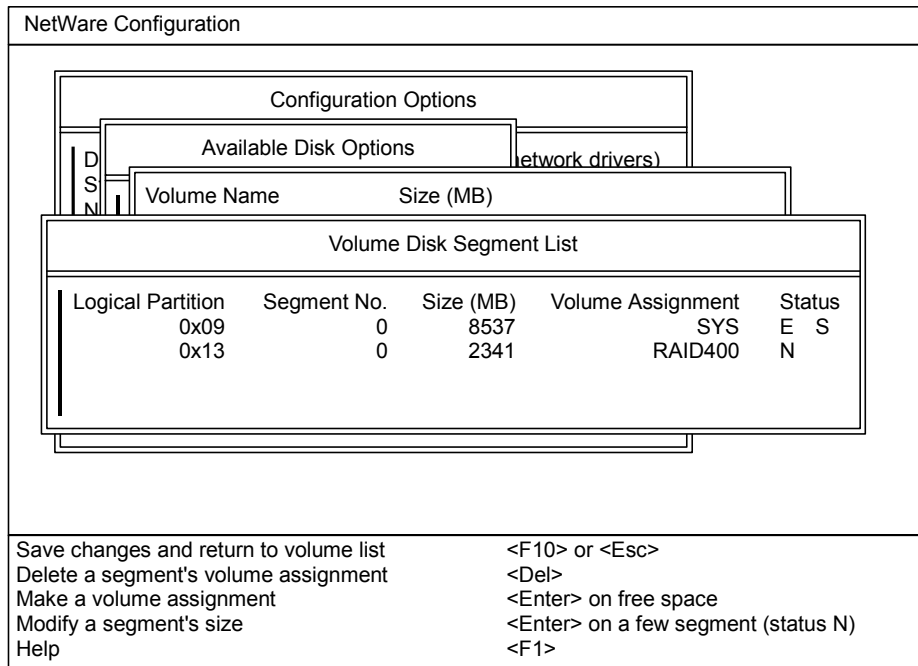

**Figure 3.11** Creating a New Volume on the Selected Device
5. When the **What would you like to do with this free segment?** message appears (see Figure 3.11), select the desired option, and press **Enter**. If you selected **Make this segment part of another volume**, select the volume you want to add this segment to, and press **Enter**.